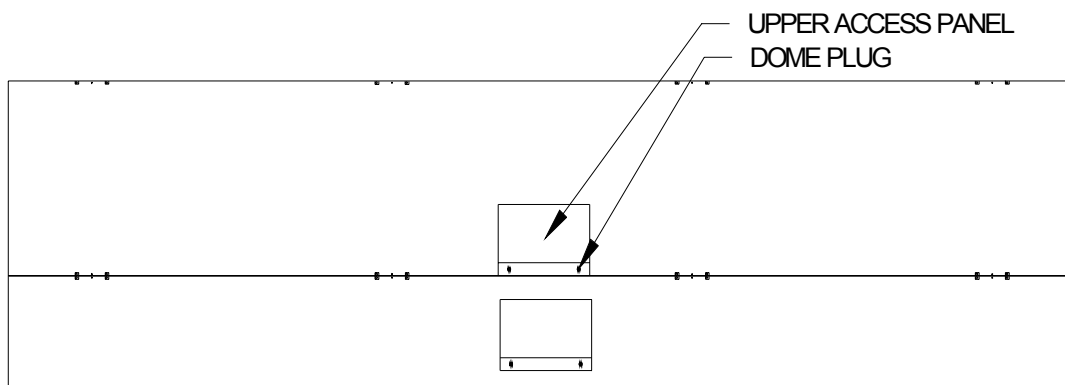

Figure 7 Upper Section Rear Access Panel
1. Remove the rear access panel of the upper scoreboard section and the dome plugs on the plate below the access panel. Figure 7 shows the location of the upper rear access panel and the dome plugs.